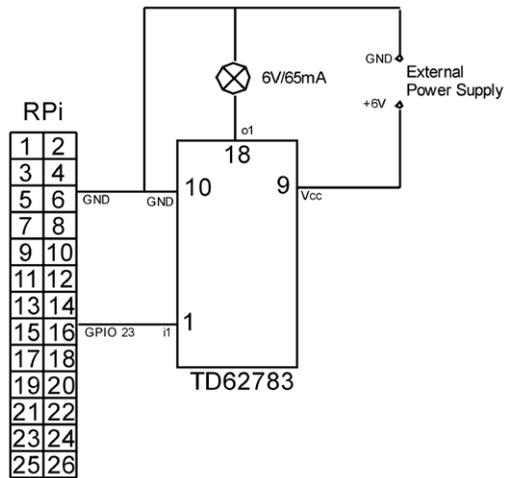

Figure 6.3. Connection of the TD62783 to the header.
We start with a simple circuit where we connect a 6 V, 65 mA light. You can see that the TD62783 is connected to GPIO 23 (pin 16 on the header). The ground of the Raspberry Pi and the adjustable power supply are connected together. The +3.3 V and +6 V obviously aren't. As shown in Figure 6.3, the +3.3 V of the Raspberry Pi isn't used at all since the TD62783 is powered through the  $V_{CC}$  pin (9), which is connected to the adjustable power supply.